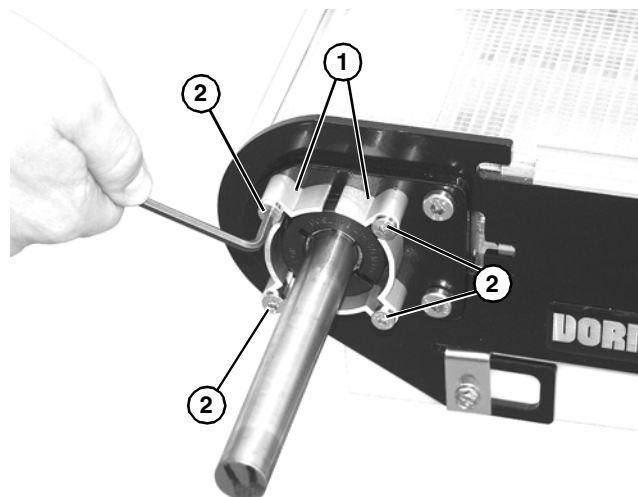

Figure 15
3. Install two spacer plates (Figure 15, item 1) with four M6 hex head screws (Figure 15, item 1).